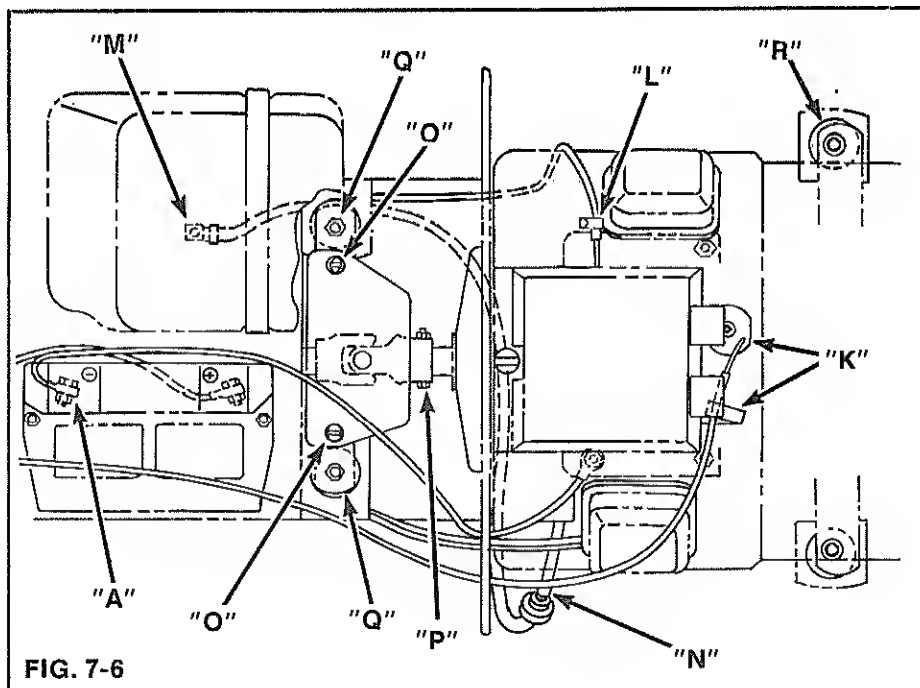

FIG. 7-6
12. Remove two screws securing guard (O) to rear engine mounts. Remove nut and bolt (P) from driveshaft. Slide driveshaft off the engine shaft.
13. Remove nuts and bolts from mounts, (Q), at rear of engine Figure 7-6. Remove same from mounts, (R), at front of engine, 7-5.
5. Install the guard (O), Figure 7-6, to the engine mounts.
7. Connect throttle cable (K) and choke cable (L), Figure 7-6. Route throttle cable thru heat shield first.